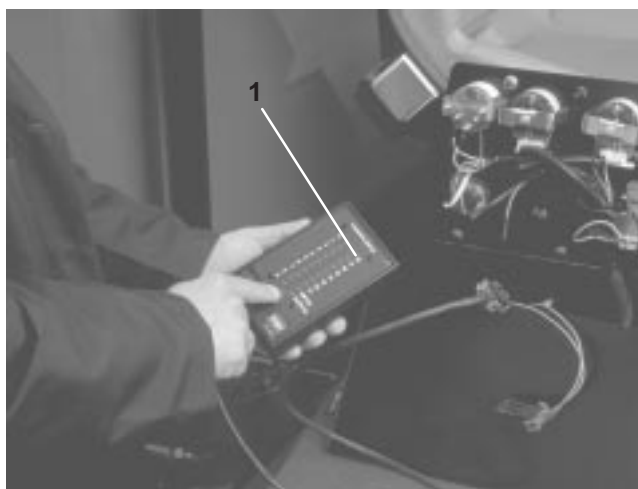

Figure 33
3. Connect the Diagnostic ACE display connector to the harness connector (Fig. 33). Make sure correct overlay decal is positioned on Diagnostic ACE display.